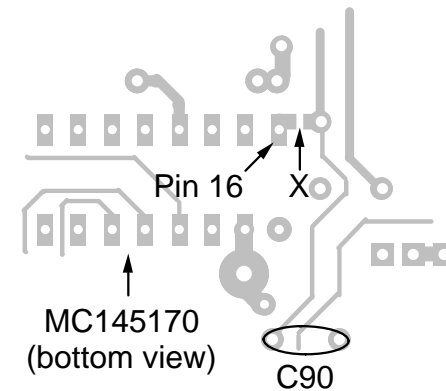

Figure 6-14b
- Looking at the *bottom* of the RF board, locate U4 (MC145170, near C90). As shown by the "X" in Figure 6-14b, the short trace from pin 16 of U4 to C89 (on the top side) has been cut at the factory.